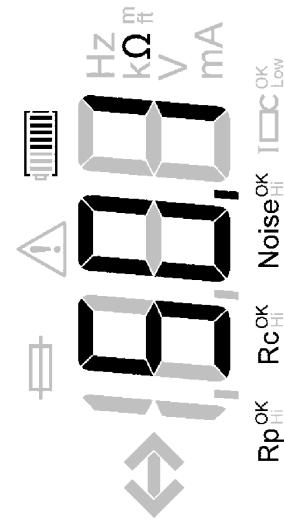

Figure 6: Three point resistance and four point resistivity reading
- A resistance reading will be displayed on the LCD display, as shown in Figure 6.
5. A resistance reading will be displayed on the LCD display, as shown in Figure 6.